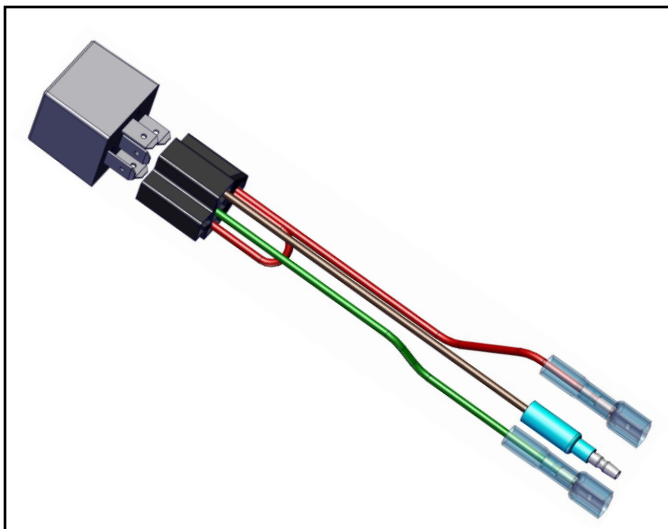

Fig. 1.8 (Install relay into Controller Jumper Harness )
- 1.8 Install the supplied Relay onto the Controller Jumper Harness per fig 1.8.